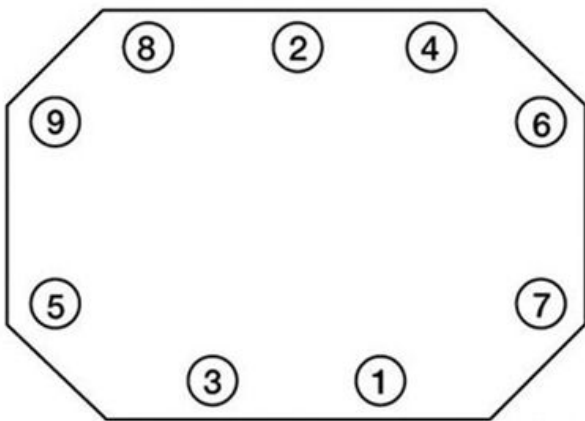

Figure 24. Bolt Tightening Sequence 2 and 3.
3. Torque all nine M8 x 30 heat-resistant bolts to 12 lb-ft (16 N·m) in bolt tightening sequence 2 and 3 (Figure 24). Repeat sequence and torque to 18 lb-ft (24 N·m).